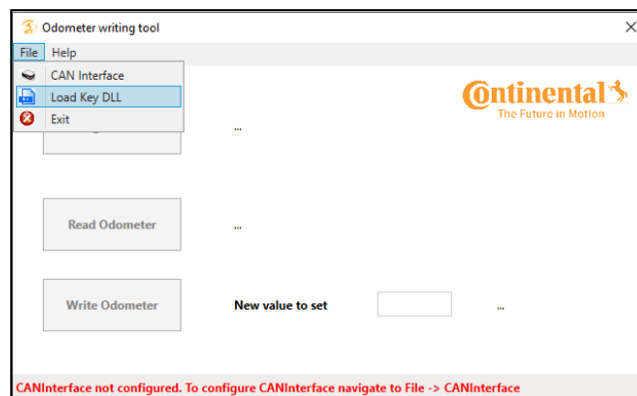

Figure 9
- a. Click on “FILE” and select “LOAD KEY DLL” (see figure 9).